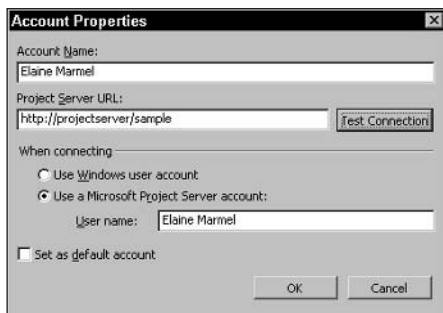

Figure 20-2: Use this dialog box to create a new Project Server account.
2. Click the Add button. You see the Account Properties dialog box, as shown in Figure 20-2.